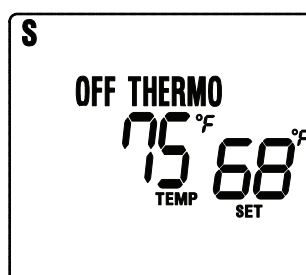

Fig. 10 Thermo Mode
Step 2: Press the MODE button a second time to put the to put the system in THERMO mode (Fig. 10).